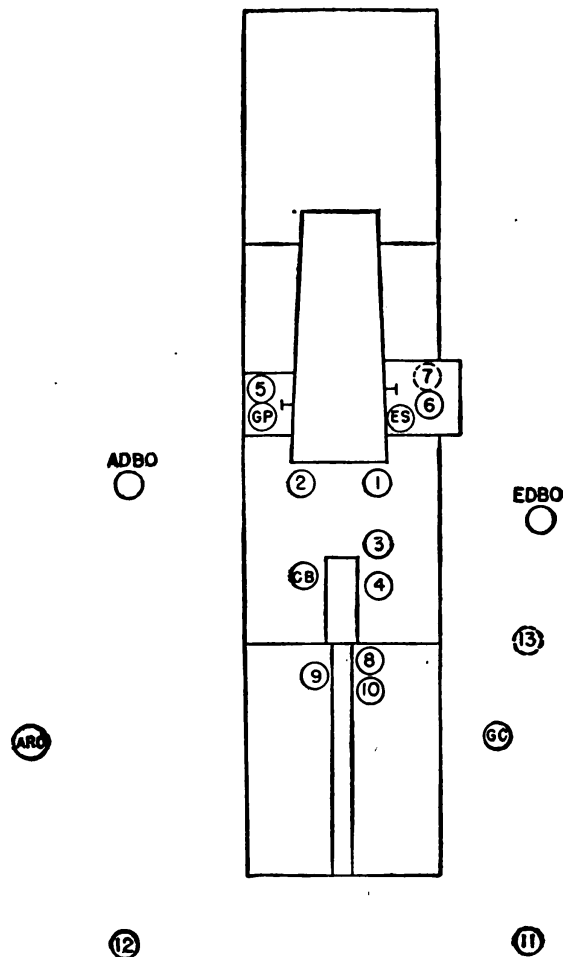

FIGURE 11.—Posts of cannoneers at command DETAILS, POSTS.
Q. What are the posts of the cannoneers at command DETAILS, POSTS? A. See figure 11.